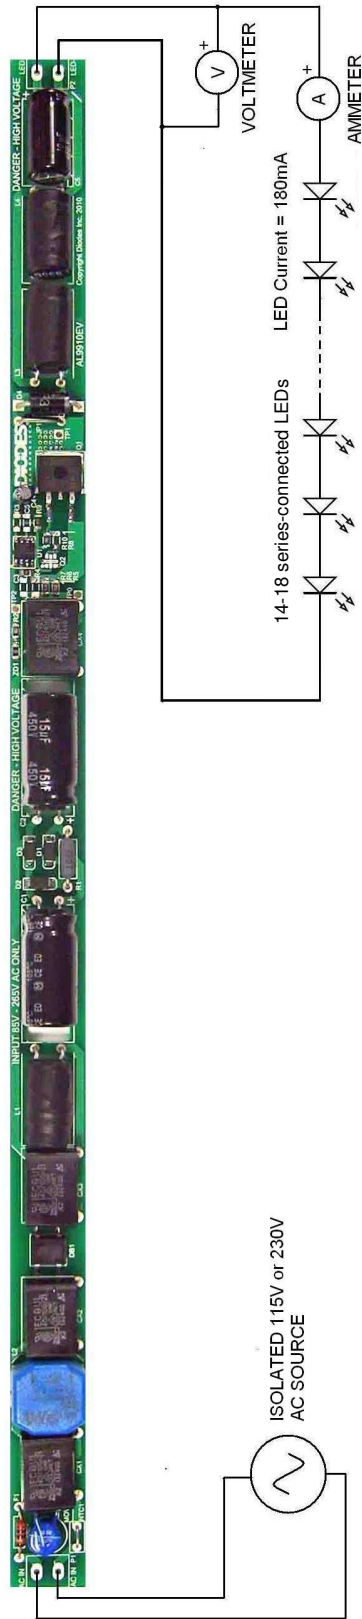

Fig. 1 AL9910EV4 Evaluation board connection diagram
5. Connect a voltmeter & ammeter according to the connection diagram in Figure 1, if LED current and voltage measurements are required.